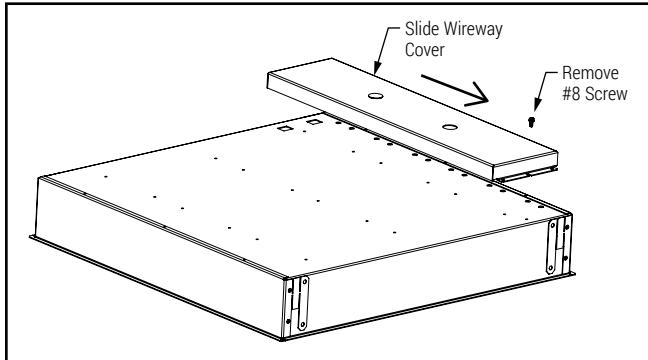

Figure 1.
3. Locate fixture wireway cover remove screw and slide to remove it. (Figure 1.)